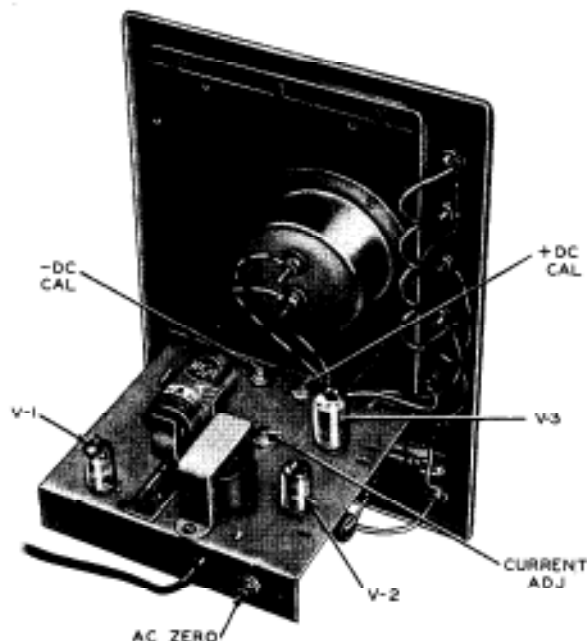

Figure 11. Locations of tubes and calibration controls
A schematic diagram of the WV-87A is shown in Figure 6 and locations of calibration controls are shown in Figure 11. If it becomes necessary to replace any of the component parts, only RCA replacement parts or their equivalents should be used. When ordering replacement parts for the Master Volt-Ohmyst, consult the Replacement Parts List on page 12 and specify the code and serial numbers of the instrument as well as the stock number of the replacement part.
6. With a screw driver, adjust the "+DC CAL" potentiometer (R15) to bring the pointer exactly to the 50-volt mark on the scale. (See Figure 11 for location of calibrating controls.)